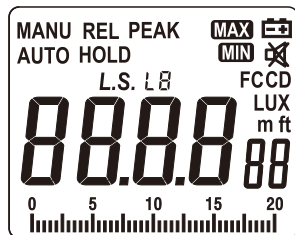

Figure 3-5-1
- Hold the “MAX/MIN/LS” button for one second and the LS value will flash on the LCD display (as shown in figure 3-5-1). The meter is now in source selection mode. Press “REL/PEAK” or “HOLD/ZERO” to change the light source (L0-L9), long press to accelerate change.